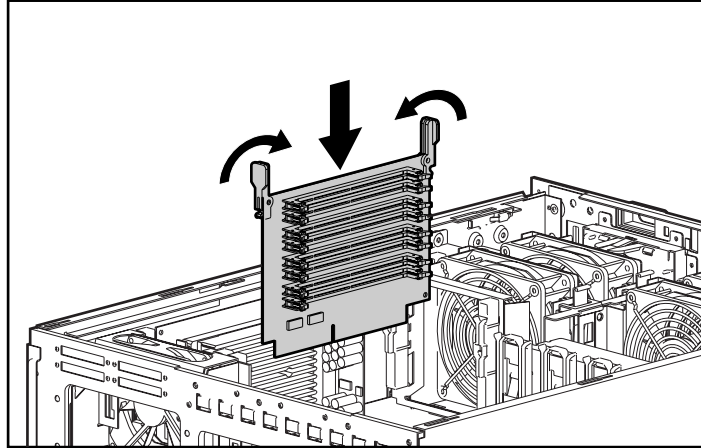

Figure 4-7. Installing Memory Board
1. Remove the memory board as shown in Figure 4-7.